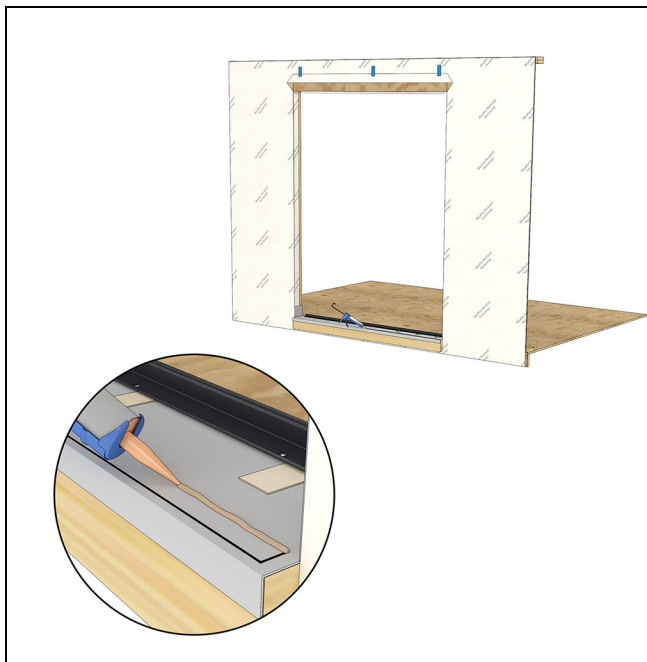

Figure 36
1. Apply a 3/8" (10) bead of sealant about 1" (25) inside of the line you marked earlier. See Figure 36.